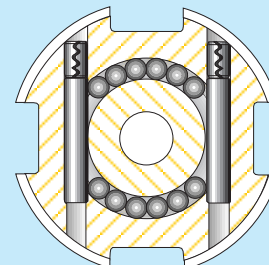

Fig. 3
7. Load the last lock pin into hole (Fig. 3).